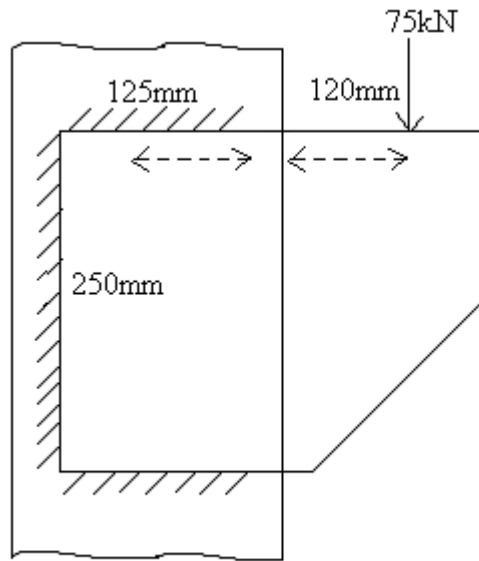

Figure 2
- b) Find the max force per mm run on the weld for the bracket connection shown in figure 2. Suggest a suitable size of the weld. Take the permissible shear stress in the weld = 100 N/mm². [4+12]